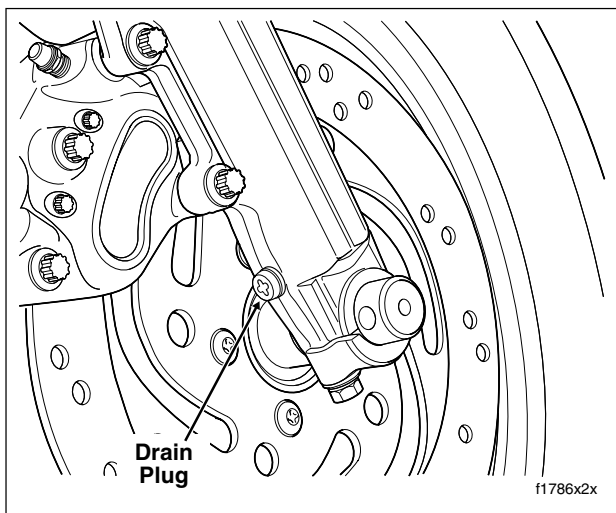

Figure 2-70. Remove Fork Oil Drain Plug (Right Side Shown)
4. Remove the drain plug from the bottom of the fork slider. See Figure 2-70.